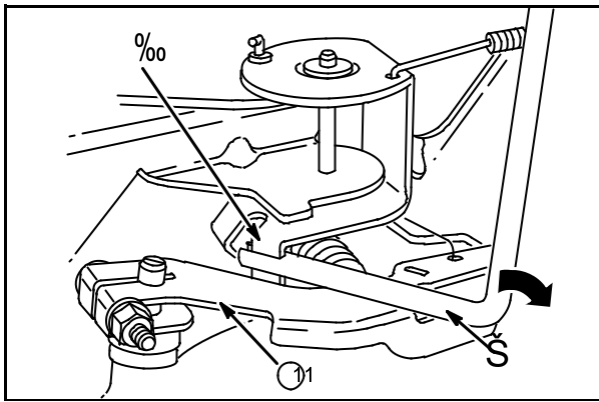

Fig. 23
With equipment control lever in SLOW position and engine running at governed idle, use Tang Bender **#19352** (10), to bend throttle restrictor tang (9) so that it just contacts governor lever (11), Fig. 23.